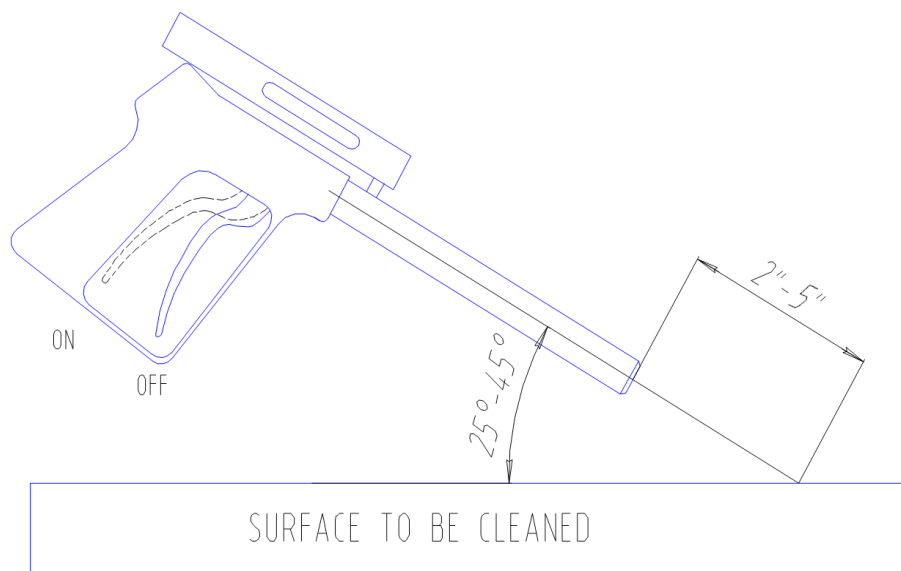

Figure 5.3 – ZT-Gun position for best results
When the diver is ready to commence cleaning operations, ensure that the ZT-Gun / CaviDome™ trigger is in the open or “ON” position (Figure 5.3), the tool is submerged in the water and the feed pump is operating prior to throttling up the engine. Ensure that the power unit operator and other people working in the vicinity of the power unit wear appropriate hearing protection when the engine is running.
2. The most efficient operating technique with the ZT-Gun is to hold the nozzle 2-5 inches away from the surface to be cleaned and at a 25 to 45 degree angle to the surface (Figure 5.3). The diver needs to observe the shape of the cavitating jet cone. At greater depths, the higher ambient pressure will cause the jet cone to be shorter. The widest zone of the cone is the most efficient part of the cavitating jet. Placing the nozzle closer than 2 inches from the surface being cleaned will not allow for efficient cavitation performance and will degrade the cleaning capability of the CaviBlaster™ system.